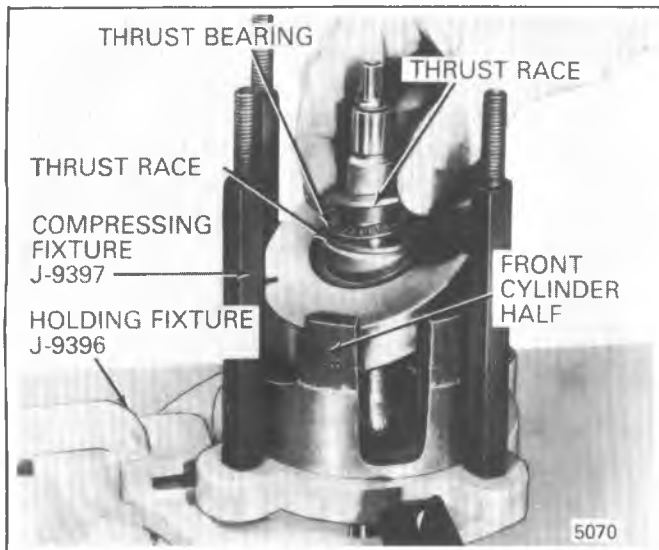

Figure 1D-41 Installing A-6 Rear Thrust Races and Bearings
7. Lubricate cavity of a **ZERO SHOE** disc with 525 viscosity refrigerant oil and place shoe disc **OVER BALL** IN **FRONT END** of piston (Figure 1D-42). **Front end of piston has an identifying notch in casting web** (Figure 1D-37).